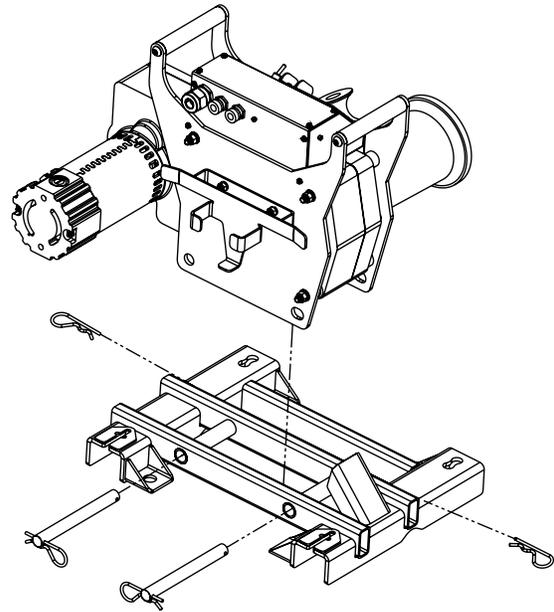

Figure 21b
9. Install model #1450 puller onto the floor mount by lowering the puller over the floor mount and inserting the puller mount pins (see Figure 21b). Secure the puller mount pins with spring clips. NOTE: The puller **MUST** be mounted onto the floor mount with the capstan on the same side as the mounting chain handle holes (see Figure 20).